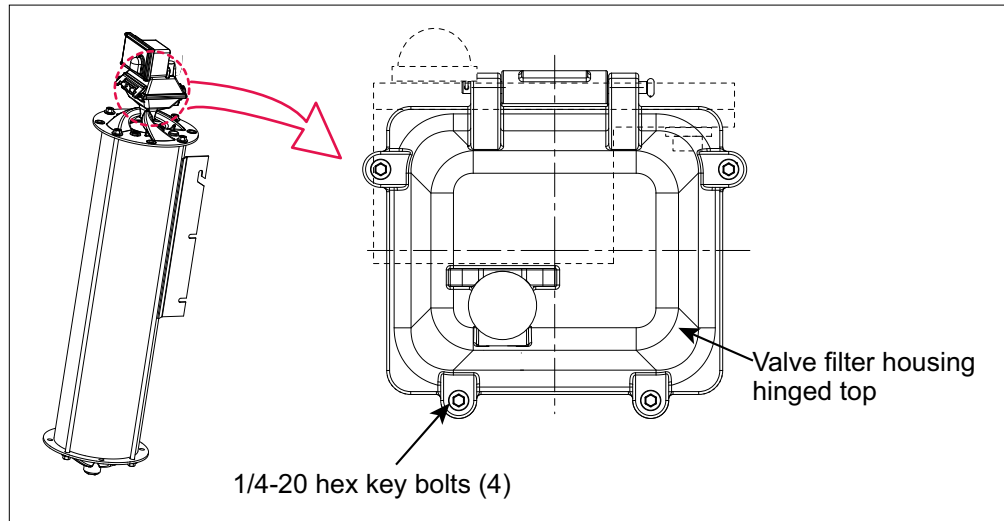

Figure 16. Accessing the VALVE FILTER and O-Ring
1. Remove the four 1/4-20 x 1 inch hex key bolts from the top of the vapor valve filter housing (see Figure 16).